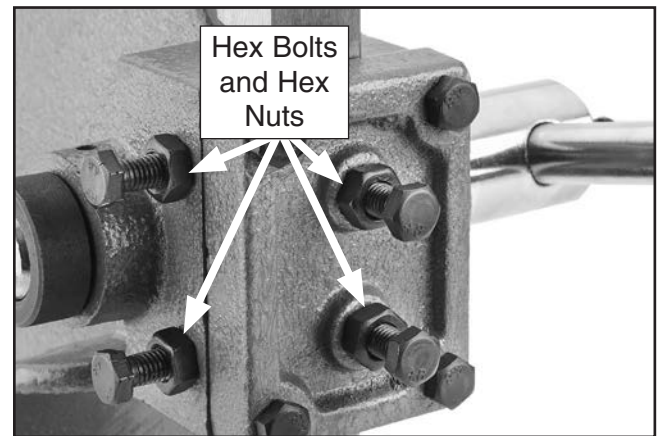

Figure 9. Hex bolts used to adjust ram free-play.
Hex bolts on the front and left side of the ram housing (see **Figure 9**) adjust the amount of ram free-play. The ideal adjustment allows the ram to move with very little play but not be overly stiff.
1. Loosen hex nuts shown in **Figure 9**.